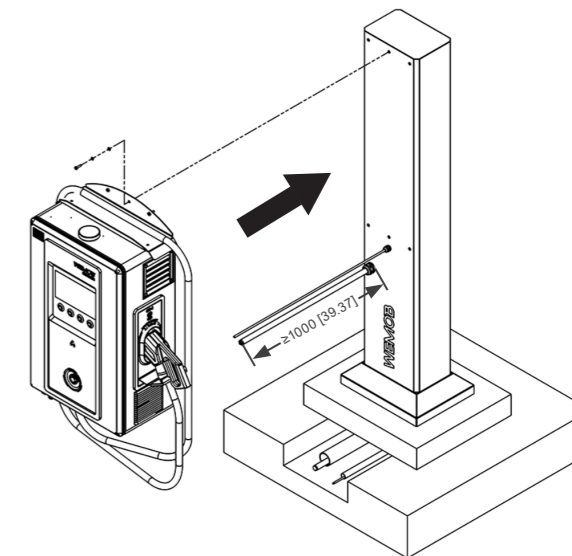

Figure 4.1: Example of mounting the WEMOB-STATION (30/40 kW) on the Totem - mm
After securing the Totem to the concrete base, the charging station must be mounted. This should be done through the six (06) existing mounting points on the Totem using six (06) M6 screws. The recommended tightening torque is 10 Nm to ensure a safe installation for both the charging station and the operator, as shown in Figure 4.1.